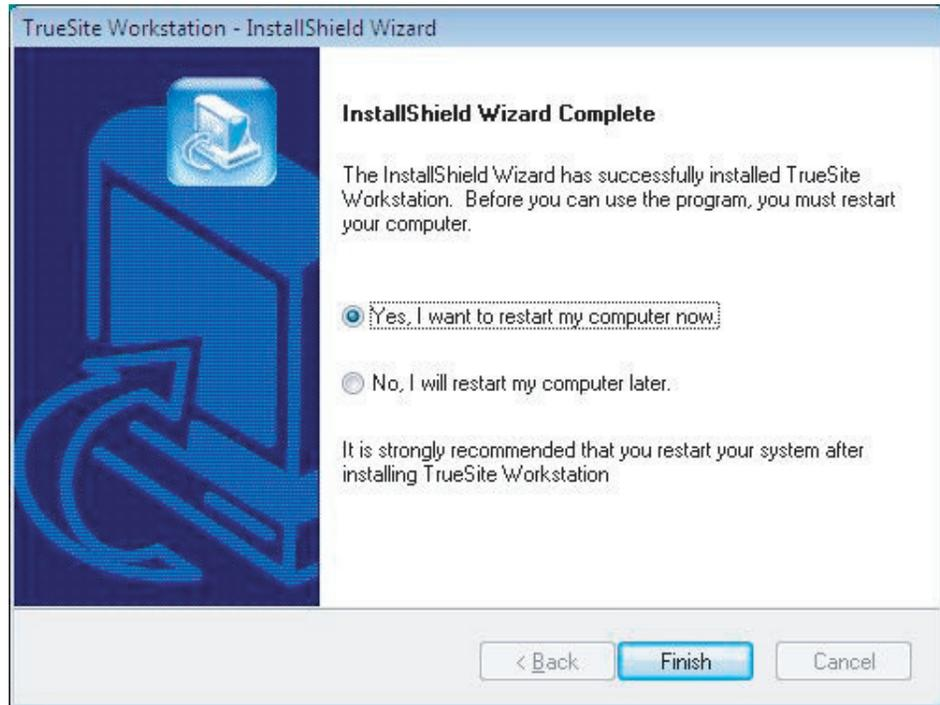

Figure 3-19 InstallShield Wizard Complete Dialog
- k. TSW installation is complete. The **InstallShield Wizard Complete** dialog box appears as shown in Figure 3-19. Click **Finish**.